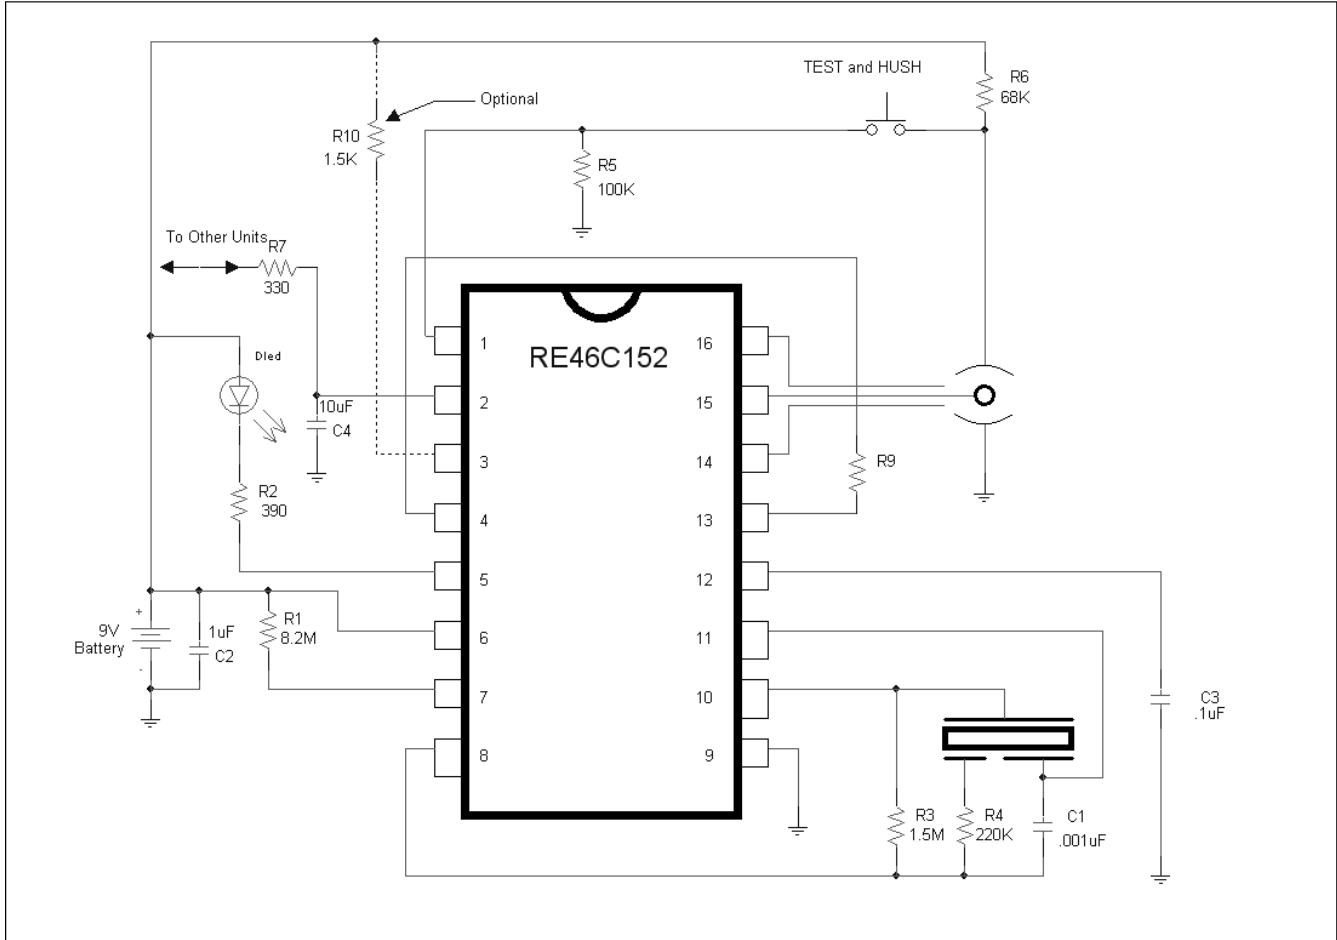

Figure 3
**Notes for Application Drawing Figure 3:**